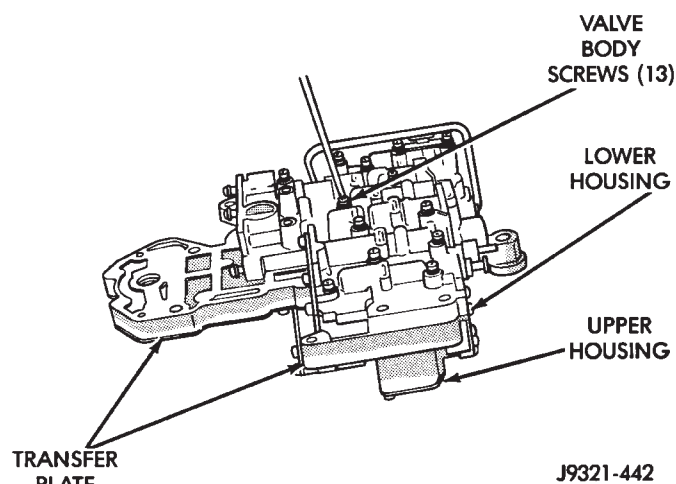

Fig. 74 Installing Lower Housing On Transfer Plate And Upper Housing
(5) Install lower housing on assembled transfer plate and upper housing (Fig. 74).
(6) Install and start all valve body screws by hand except for the screws to hold the boost valve tube brace. Save those screws for later installation. Then tighten screws evenly to 4 N·m (35 in. lbs.) torque. Start at center and work out to sides when tightening screws (Fig. 74).